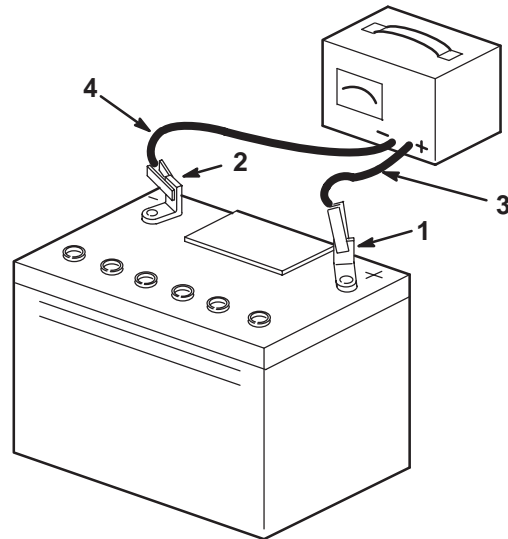

Figure 6
6. Charge the battery for 1 hour at 25 to 30 amps or 6 hours at 4 to 6 amps (Fig. 6). **Do not overcharge the battery.**
7. When the battery is fully charged, unplug the charger from the electrical outlet, then disconnect the charger leads from the battery posts (Fig. 6).